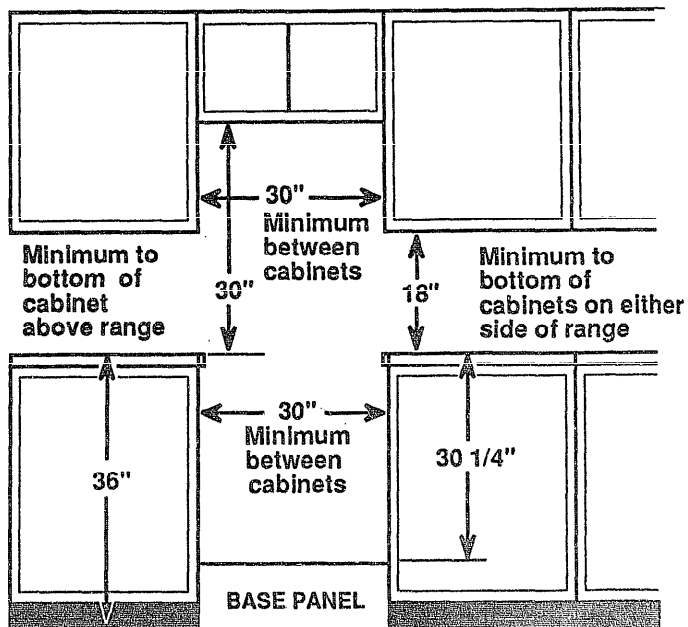

Fig. 2
See Figure 2 and Figure 3 for all minimum clearance dimensions. These dimensions must be met for safe use of your range.
The following minimum clearance dimensions and all dimensions marked min. in Fig. 2 and 3 must be maintained:
2. Lay out the cutout opening on the countertop per Fig. 2. (Countertop cutout shown in Fig. 2 assumes a standard installation in a 25" deep counter with a standard 1" overhang.) If the overhang is less than 1", the range front side trims and control panel end caps will extend into the 30" cutout. If the overhang is greater than 1", a gap between the cabinet face and the range front side trims will exist. A molding may be fitted to provide a more custom appearance. Before cutting, check for dimension marked min. (Fig. 2). If these dimensions are not met, the product can be moved forward on the countertop. (Decrease the cutout dimensions 22 13/16" & 1 1/8" by the amount of the forward movement.) This will make the end caps extend forward in front of the countertop and may create a gap between the range front trims and the cabinet face. If this occurs, fit molding as above. If the countertop has a formed, raised front ("bull nose"), the counter must be flat at the back edge of the notch. If it is not flat at the back edge of the notch, the raised area must be filed or cut away to fit.